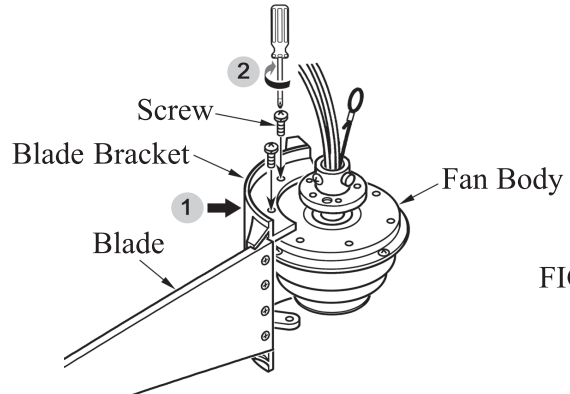

FIG.2
2. Attach each blade assembly to the fan body using the blade bracket screws. Tighten them securely. (See fig.2)